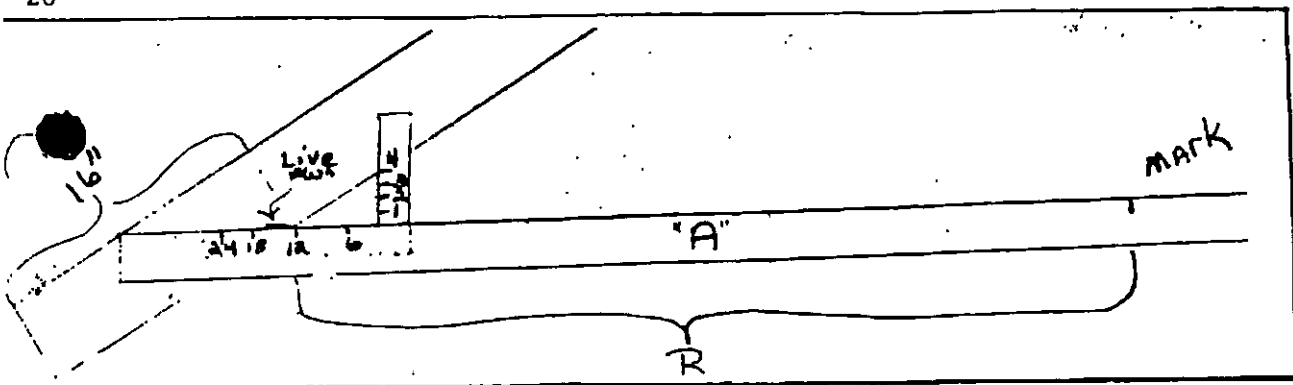

FIGURE 42
- Step 6. Place plank "A" directly in line with the long arm of the framing square. (See Fig. 42)